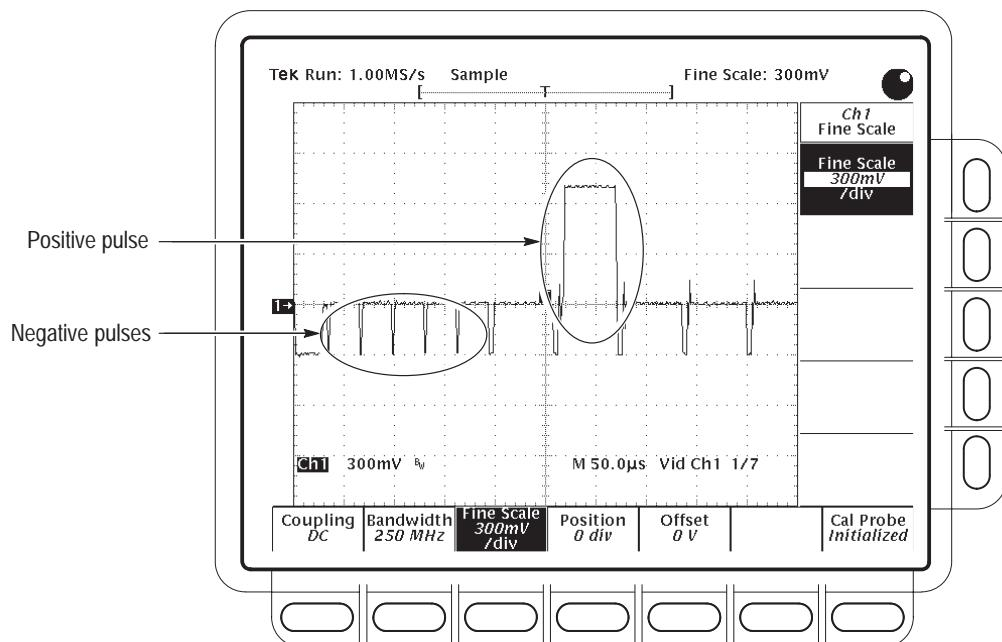

Figure 4-28: Triggered signal range test – 300 mV
- m. CONFIRM that the **TRIG'D** LED stays lighted and that the waveform on screen is stable. Also, CONFIRM that the waveform on the screen has one positive pulse and a number of negative pulses. See Figure 4-28.